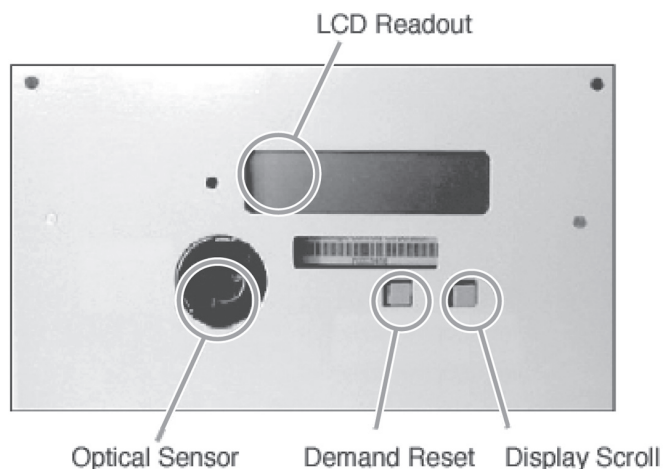

Figure 4-1. RSM-5c and RSM-5 Front Panel Display.
The RSM-5c and RSM-5 user interface (LCD window) is located on the front panel of the meter. It is easy to navigate the various sub-menus to read metering data, reset values and view configuration data. See Figure 4-1.
1. Press and hold the Demand Reset button shown in Figure 4-1.